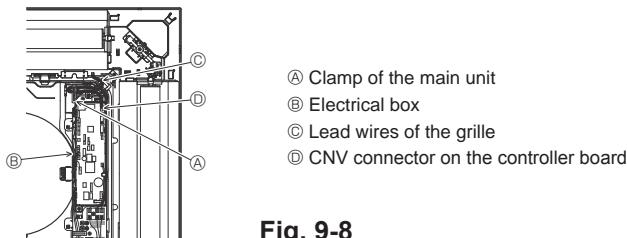

**Fig. 9-6**
### 9.4.2. Temporary installation of the grille (Fig. 9-6)
- By tightening the pre-installed screws, fix the grille onto the main unit. (Fig. 9-6)
- After tightening the screw, confirm that the two grille hooks (Fig. 9-6) are latched onto the hooks on the main unit.